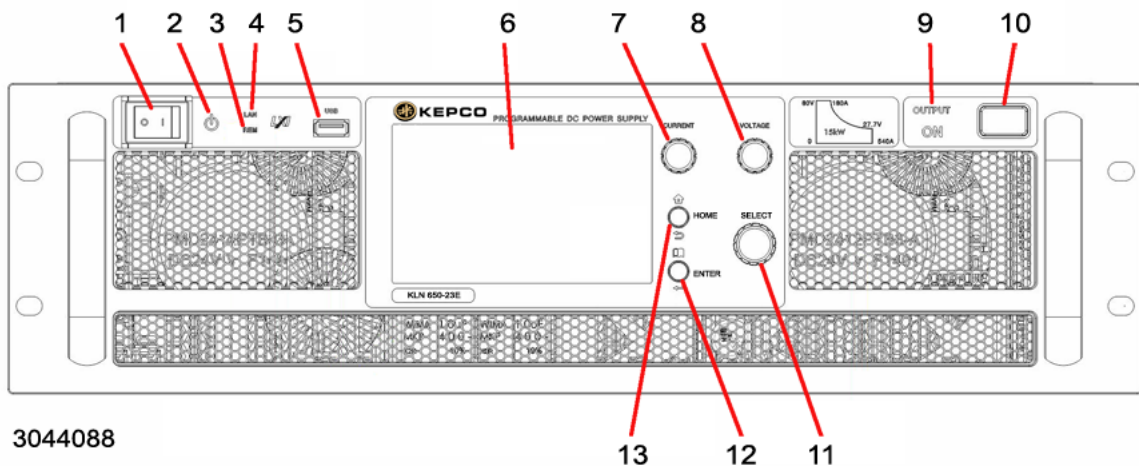

FIGURE 3-1. KLN EXT SERIES FRONT PANEL^(‡)
The following paragraphs describe basic operation of the front panel controls, indicators and switches, as well as the color display/touch screen, which are used to configure and operate the power supply. This includes a description of the front panel (PAR. 3.2.1), color display/touch-screen (PAR. 3.2.2), how to turn the unit on (PAR. 3.2.3) and how to change the power-up defaults (see PAR. 3.2.1). An explanation of the KLN EXT menus (PAR. 3.2.4) provides basic techniques used to operate the power supply. Operator convenience functions (LCD background and contrast, and the audible beep) are described in PAR. 3.4.15. Refer to Table 3-1 and Figure 3-1 for a description of front panel controls and indicators. PAR. 3.3 explains how to use the front panel Menu to access all other locally accessible functions.
The following paragraphs describe basic operation of the front panel controls, indicators and switches used to configure and operate the power supply^(‡). Refer to Table 3-1 and Figure 3-1 for a description of front panel controls and indicators.
1. To turn the power supply on, set **POWER ON/OFF** switch (1, Figure 3-1) to | (on) position. The power supply goes through a self test that exercises the Analog/Digital and Digital/Analog converters. An error 70 will be generated if the unit fails self-test.
A. FRONT PANEL CONTROLS. Press the **VOLTAGE** or **CURRENT** control (see Figure 3-1), respectively. The value for voltage or current is shown on the display. The least significant digit is blinking. Rotate the **VOLTAGE** or **CURRENT** control to change the value of the highlighted digit. Press the respective **VOLTAGE** or **CURRENT** control to highlight the next significant digit. Repeat as needed, then Press **ENTER** to confirm or **HOME** to cancel.
A. FRONT PANEL CONTROLS. Press the **SELECT** control (see Figure 3-1). The least significant digit of the value for power starts blinking. Rotate the **SELECT** control to change the value of the blinking digit. Press the **SELECT** control to highlight the next significant digit. Repeat as needed, then press **ENTER** to confirm or **HOME** to cancel.